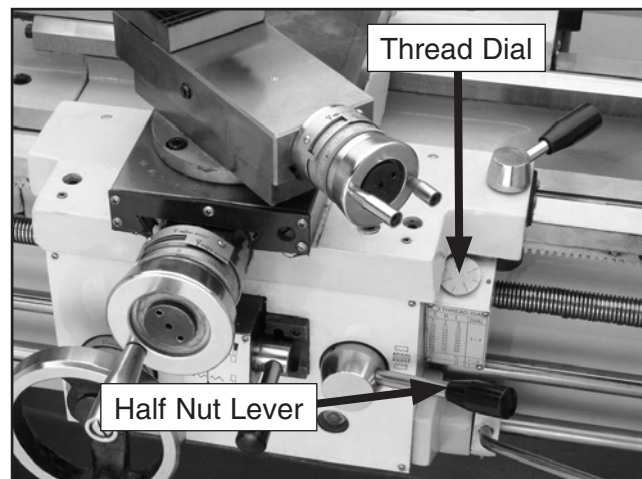

Figure 59. Half nut and thread dial locations.
- Turn **ON** the spindle to verify settings. Check to see that the lead screw is turning and verify that the apron moves in the correct direction by engaging the half nut lever shown in **Figure 59**.